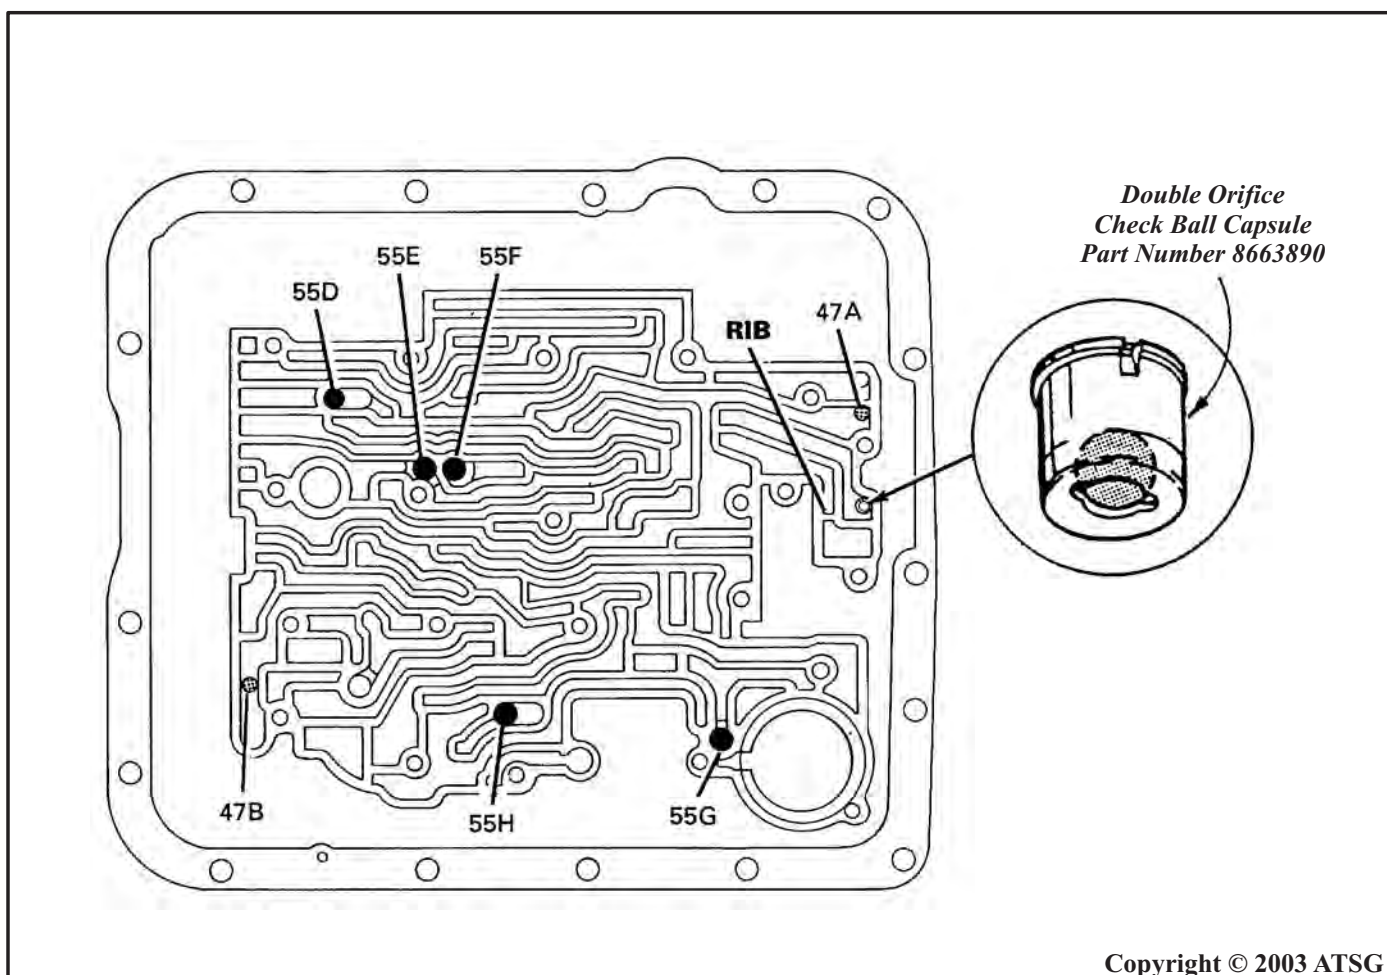

Figure 43
CHANGE: Beginning on February 9, (Julian Date 040) 1987, there was a double orificed ball capsule added to the Low/Reverse passage in rear of case, as shown in Figure 43. This capsule was part of a Reverse apply package that was implemented at the same time.
- (1) **ORIFICED CHECKBALL CAPSULE** - Added to the low/reverse passage at the rear of the case in the location shown in Figure 43, which allows for both a controlled apply and a rapid release of the Low/Reverse clutch.
- (6) ORIFICED CHECKBALL CAPSULE - Added to the low/reverse passage at the rear of the case in the location shown in Figure 43, which allows for both a controlled apply and a rapid release of the Low/Reverse clutch.